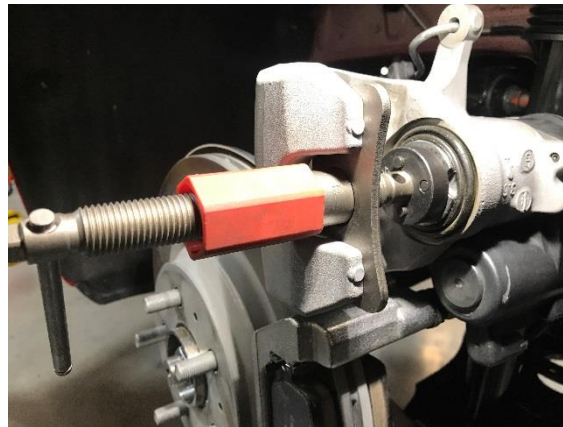

Figure 18 (Model 3 shown, other models similar)
26. Use the caliper spreader to compress the piston into the rear LH caliper (Figure 18).